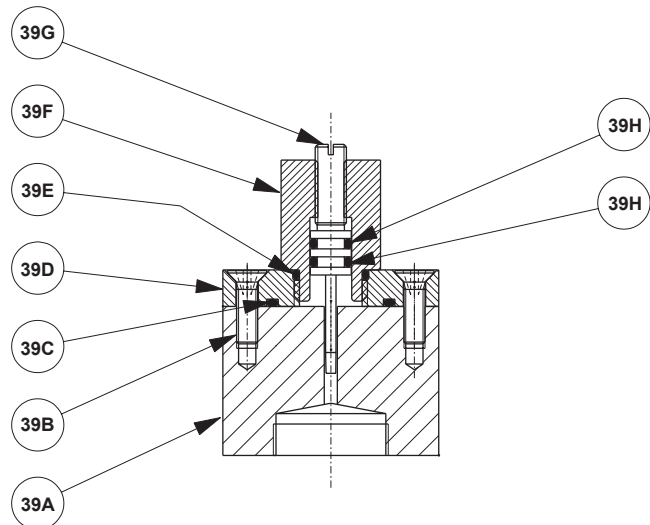

Figure 10. Two Way Injection Solenoid Valve - Maintenance
See Figures 12 and 13, item 39 for the injection solenoid valve. See Figure 10, item 39G for Metering Devices screw for injection solenoid valve.
Maintenance Procedure (refer to Figure 10)